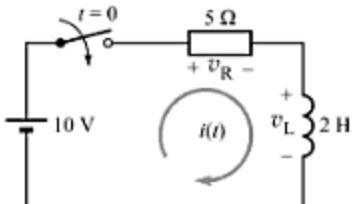

Fig. E-12
- E-5. The switch in the circuit shown in Fig. E-12 is closed at $t = 0$ s. Determine (a) the voltage v_L across the inductor, and (b) the initial rate of increase of the current $i(t)$.